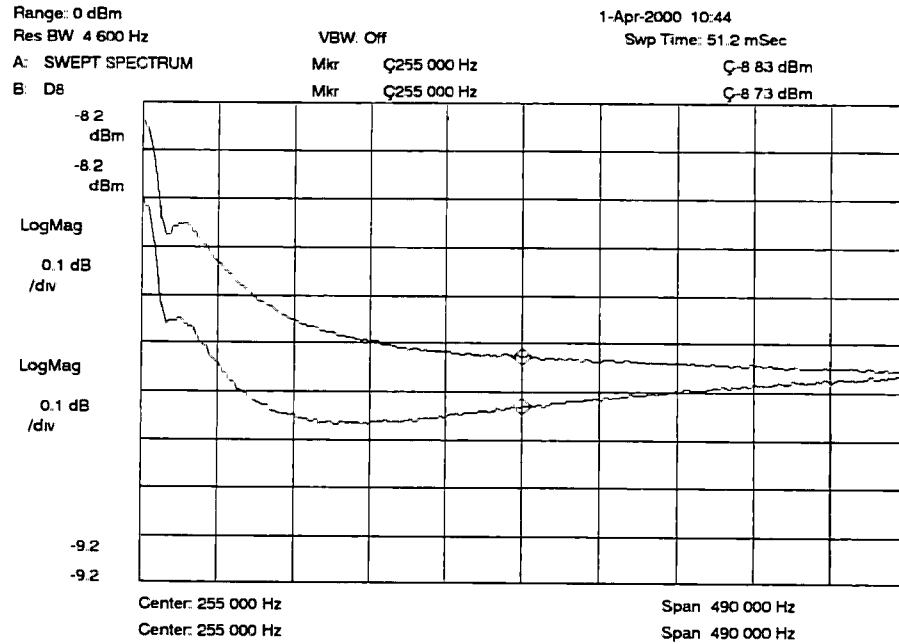

Figure 1-16. 1 Meg Ohm Flatness Adjustment
- Using the small adjustment tool in the service kit, adjust A11 C413 through a hole in the shield can so the displayed waveforms are as close as possible without the ends crossing (see figure 1-16).